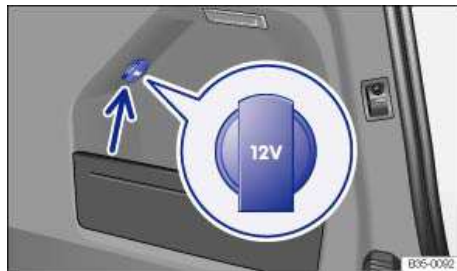

Fig. 130 In the luggage compartment: 12 Volt socket.
- ☐ In the luggage compartment ⇒ fig. 130.